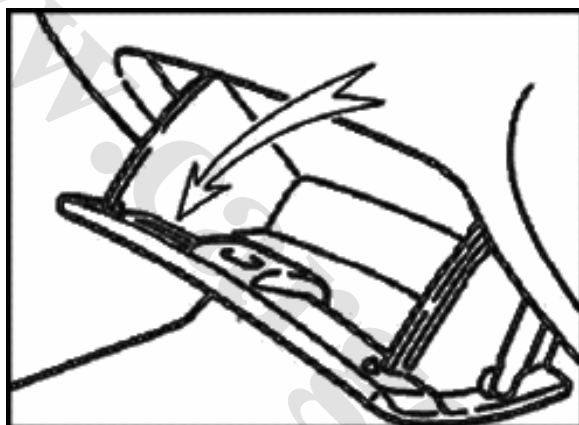

Figure 6-12
1. Remove sundries box as shown in Figure 6-12. For detail, please refer to the removal method of sundries box.